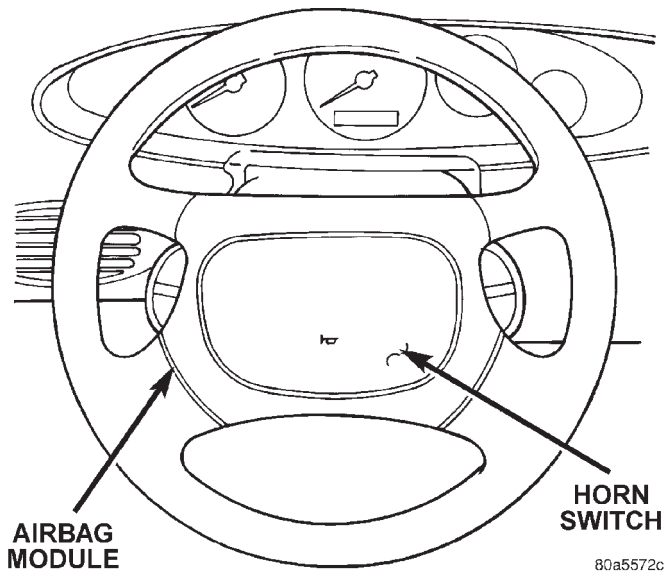

Fig. 2 Horn Switch
- (1) The horn switch grounds to the airbag housing (Fig. 2)
- (2) If horn does not sound check for corrosion:
- (3) Refer to Group 8W, Wiring Diagrams if wire circuit needs to be repaired.